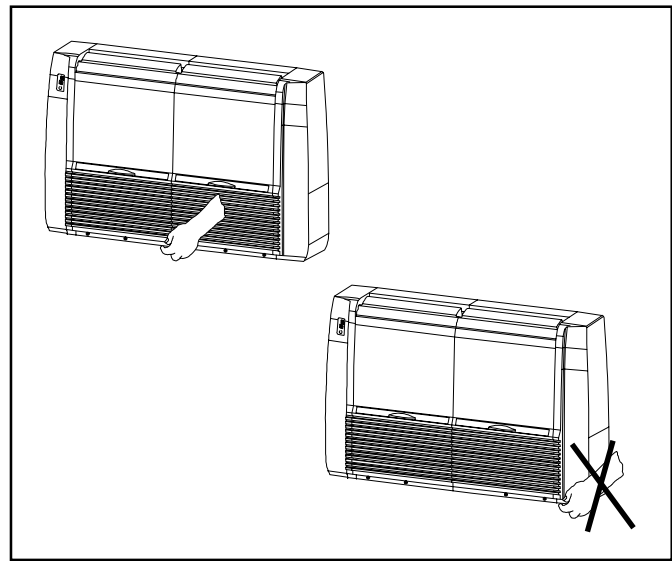

FIGURE 1 - HANDLING OF 42 LS UNITS.
- \* Never lift or carry the evaporator unit by the plastic side parts. Hold it on the metal parts, as shown on figure 1.